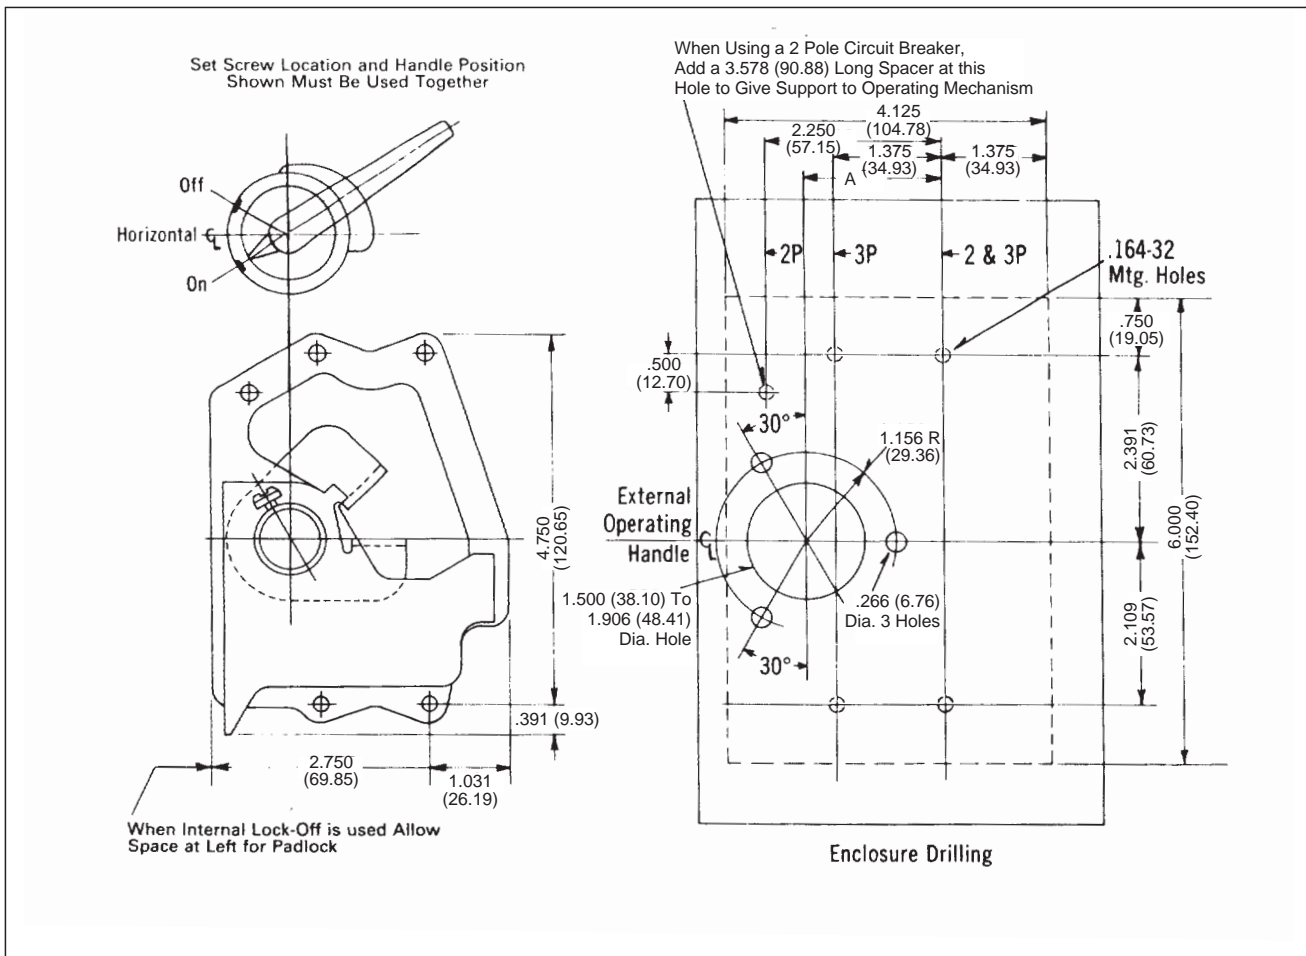
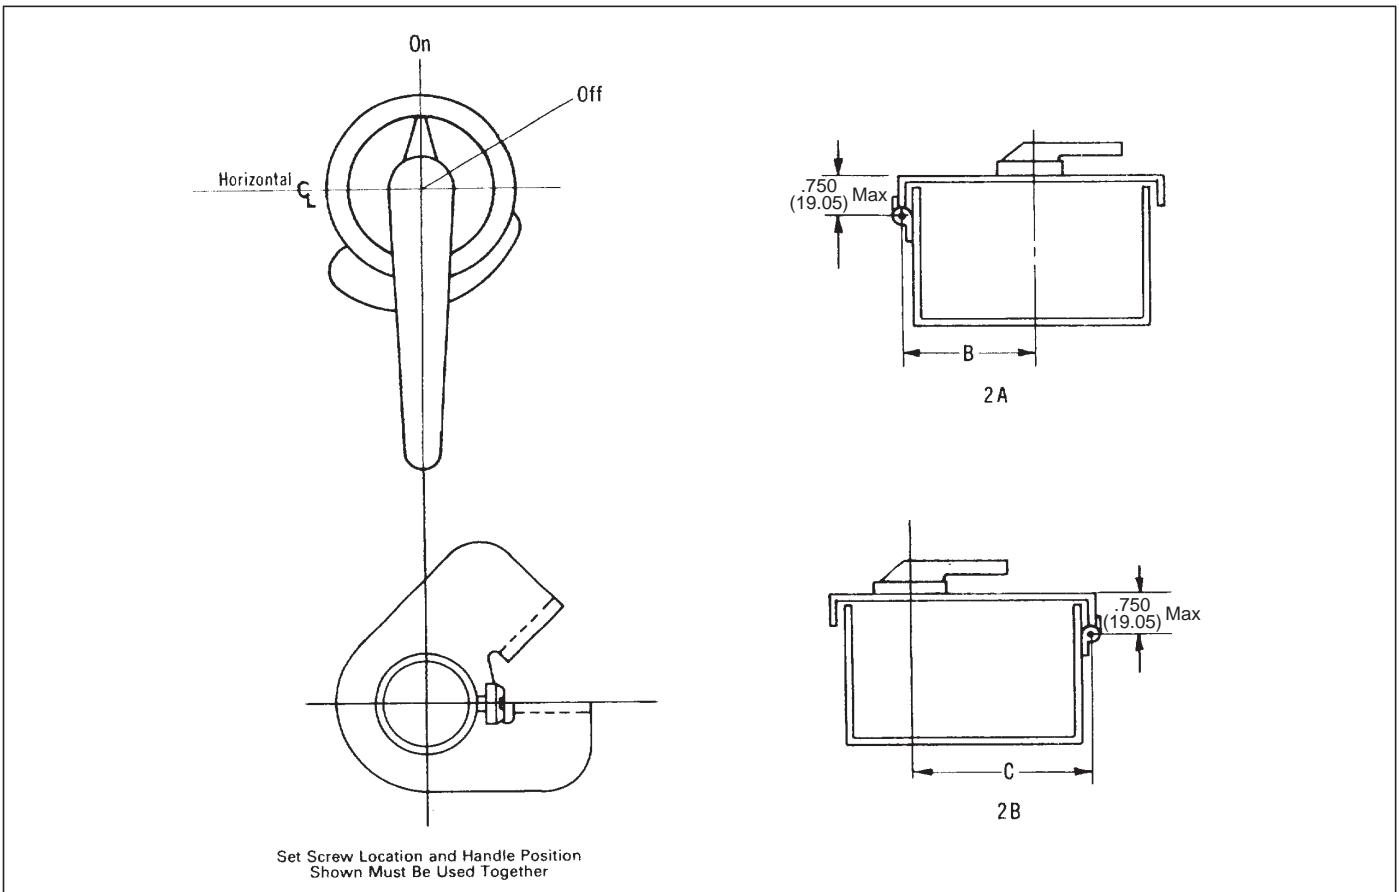
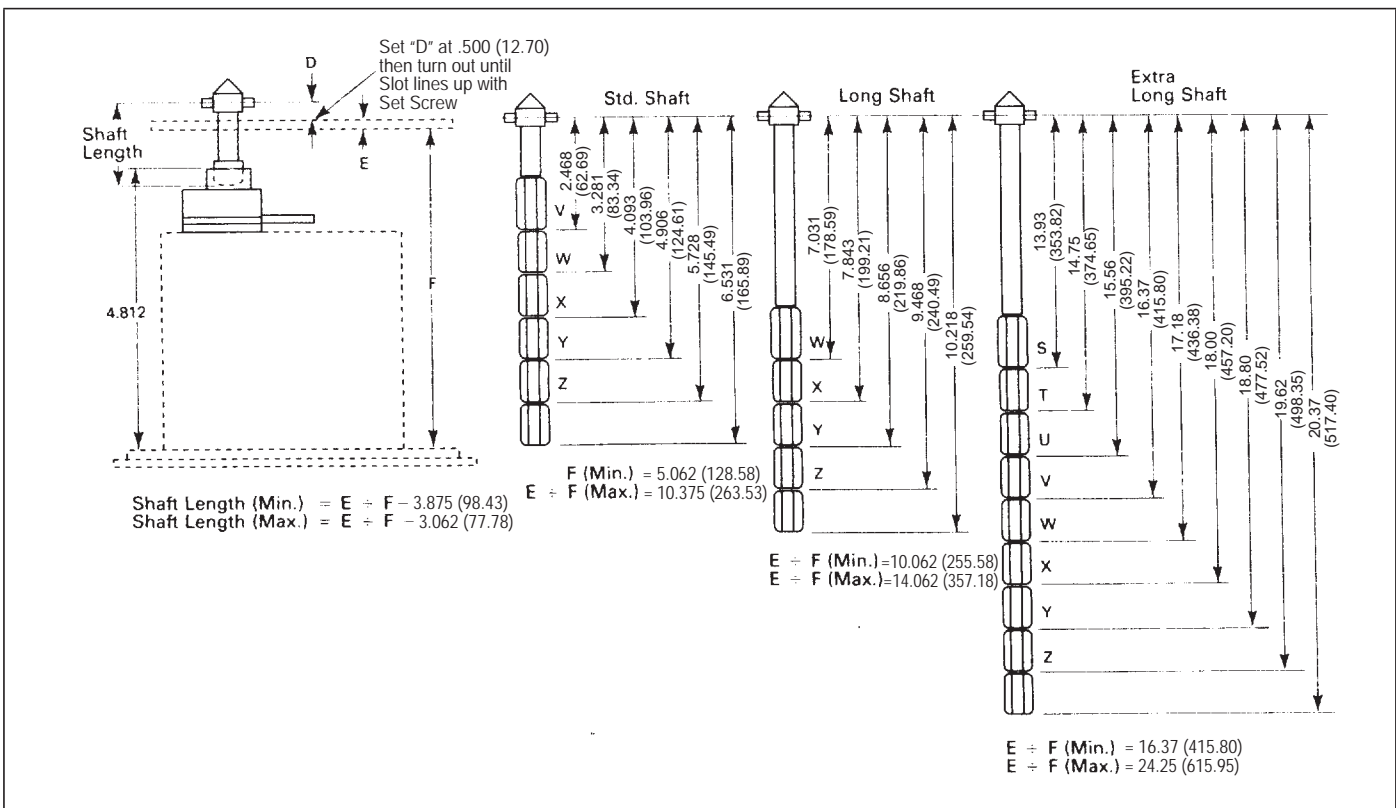

Fig. 1. Cabinet Drilling and Handle Position.
Fig. 2. Handle and Hinge Positions.
Fig. 5. Determining Shaft Length.
3. Determine shaft length as per Fig. 5 and cut off as required.
4. Set "D" as shown in Fig. 5 and lock shaft with special set screw provided and a commercially available thread locking adhesive per Fig. 1 or Fig. 2 as desired.
5. Assemble handle assembly to cover using three 1/4-20 x 7/16" screws provided per Fig. 1 or Fig. 2 as desired.
Table 1. Use Only for Handle Position Shown in Fig. 1.
Table 2. Use Only for Handle Position Shown in Fig. 2.